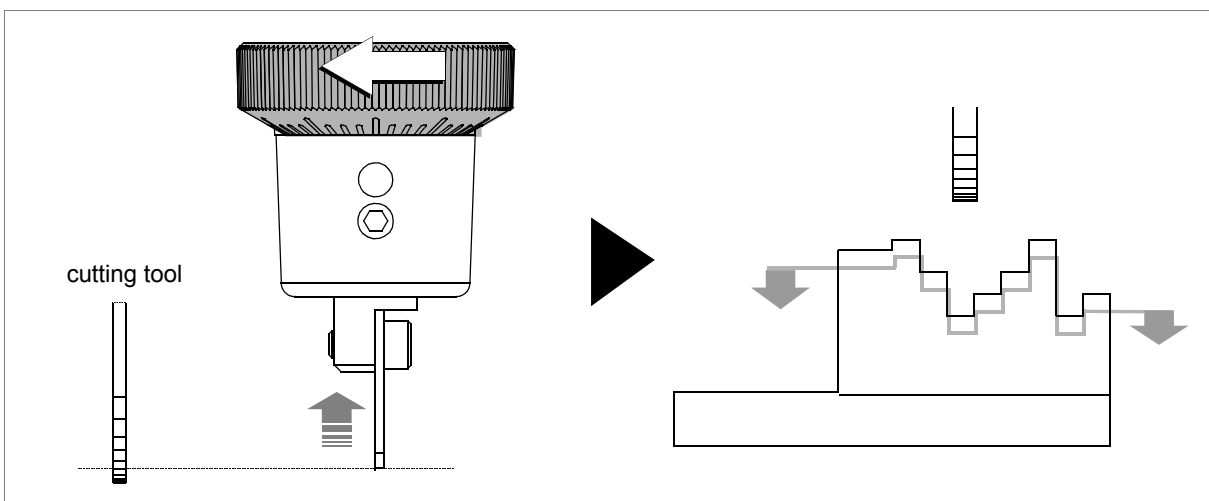

Fig. 24
- turn the ring nut (N1) anticlockwise to return (fig. 24).